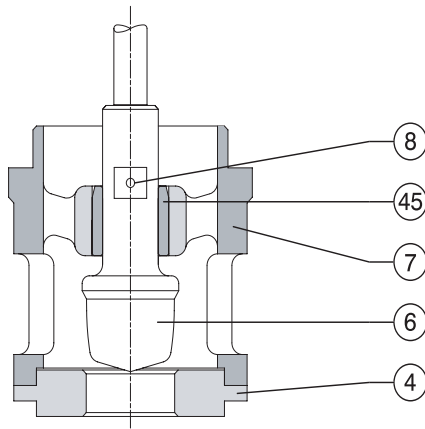

Fig. 7 - Bores - Types : 85-02, 85-08, 85-12, 85-62
5.1.4 Pull the plug (6) out of the body, together with the stem (22), seat retainer (7) (figure 7), body gasket (11), spiral wound (10) and seat retainer gasket (9). Note: In some plug configurations, the seat and gasket retainer come out from the body with the plug and in other configurations, the plug shall pass by the seat retainer bush, leaving the retainer and the gasket stay in the valve body.
5.2.6 Do not remove the guide bush (45) from the seat retainer (7) (figure 7) if the replacement is not necessary. The guide bush is pressed in the seat retainer
- Remove the nuts (36) and the studs (38). Remove the bonnet (14). Be careful not to damage the packings (17) when the stem threads (22) pass by them.
- Unscrew the stem (22) of the sealing set (35) stem.
- Remove the nuts (46) from the housing (34) and remove the set formed by the sealing subset housing (34) with the bellows set (35) and plug (6). In some internal parts construction type this set includes the seat retainer (7) (figure 7).
- If the seat (7) retainer (figure 7) stayed in the valve body, pull it together with the body gasket (11), spiral wound (10) and seat retainer gasket (9).
- If required, separate the bellows set (35) from plug (6), remove the pin (8) and unscrew the plug (6).
- If the seat retainer leaves together with the bellows set, remove the pin (8) and unscrew the plug (6), releasing the seat retainer (7) (figure 7), body gasket (11), spiral wound (10) and seat retainer gasket (9).
- In case of the plug replacement (6), a new sealing set (35) must be installed.
5.6.6 In some configurations the plug (6) does not pass by the seat retainer (7) (figure 7). In this case pass the seat retainer (7) by the stem (22).
5.6.7 Assemble the seat retainer (7) or the set including the seat retainer (7) (figure 7) and the plug (6) with the stem (22) in the body (1). Be sure the seat retainer is properly mounted in the seat. Any rotary positional of the seat retainer regarding the body is acceptable.